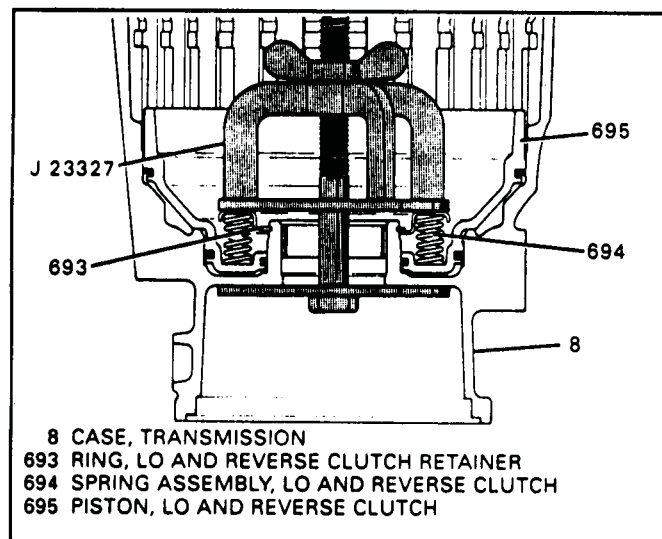

Figure 65
21. Install spring compressor J-23327 as shown in Figure 65, and compress the spring assembly past the snap ring groove in case hub.
22. Install the snap ring into the groove in the case hub and ensure that it is fully seated (See Figure 65).